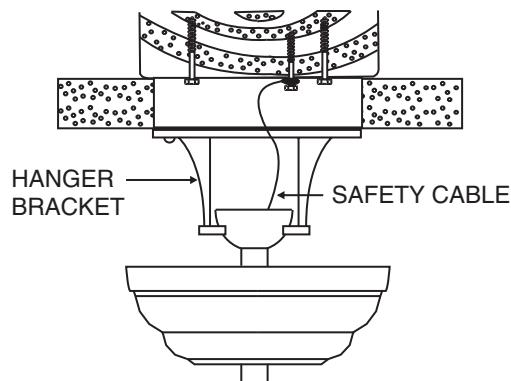

FIGURE 9
1. An additional safety support is provided to prevent the fan from falling. Secure the safety cable to the ceiling joist with screw and washer, as illustrated in Figure 9.